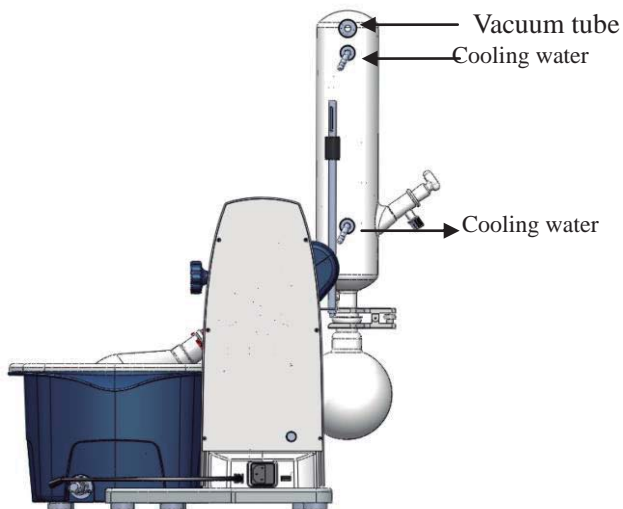

Figure 15
- Raccorder les tubes (Figure 15).